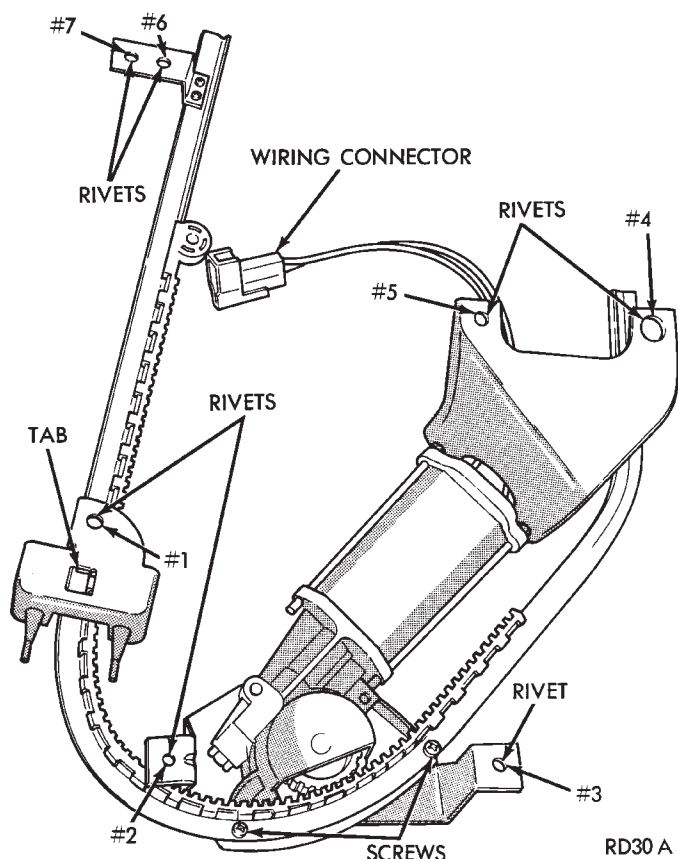

Fig. 11 Flex Drive Window Regulator Rear Door — AP Body
(2) Remove the regulator attaching rivets by knocking out the rivet center mandrel and drilling rivet with a 1/4 inch diameter drill. Remove retaining screws if necessary (Fig. 11 through 14).
(3) Maneuver the motor end of the flex drive regulator outside of the large inside panel access hole and rotate regulator out of door.
(4) If the window motor cannot be actuated and is stuck or frozen in any position other than at the access hole, the removal procedure is as follows: